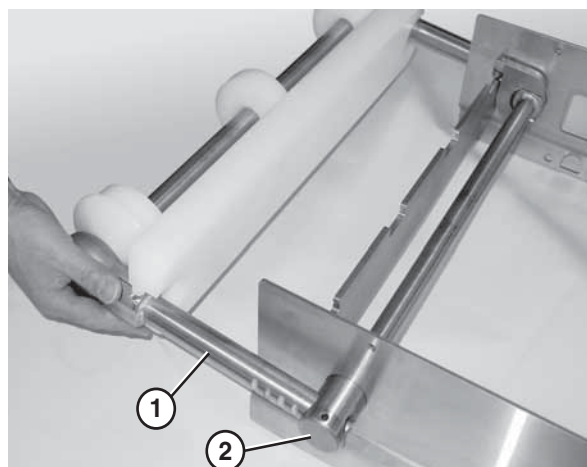

Figure 28
3. Slide the bearing shafts (Figure 28, item 1) into the holes in the tip up shaft (Figure 28, item 2).